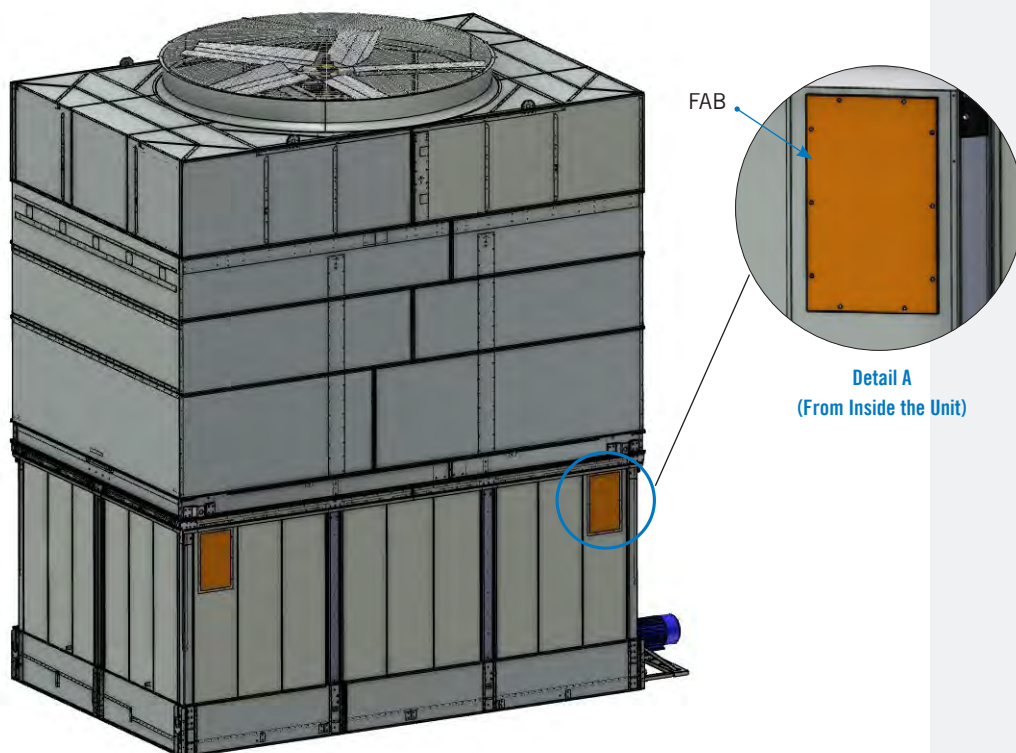

Figure 11. Quad Cell Air Bypass Panel Windows
3. PCC quad cell units come with air bypass panel windows on Face C as shown in **Figure 11**. These windows facilitate removal of the inner most lift shackle after the final cell is installed. The window panels FAB are shipped loose inside the cold water basins and should be installed using the supplied flat butyl sealer tape (BAC part # 554000) and 5/16" self-tapping screws after the final cell is in place and the lift shackles are removed.